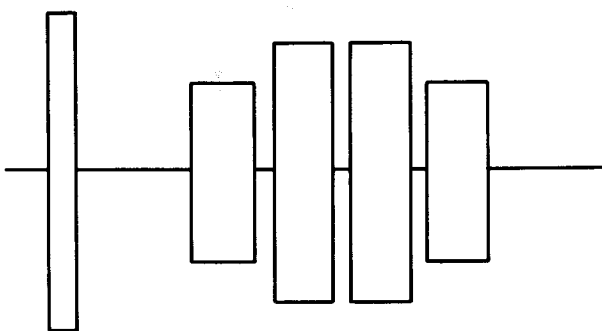

Fig. 5-3 Azimuth burst
- 3) Synchronise the probe of the oscilloscope by TP9 of PCB and connect another probe to TP1, and the probe ground to TP3, TP11 (ground). Set the input to AC, the vertical axis to 10mV/DIV, and the horizontal axis to 0.5msec/DIV. Make sure that the two outside burst waveforms are smaller than two inside burst waveforms as shown in Fig. 5-3.